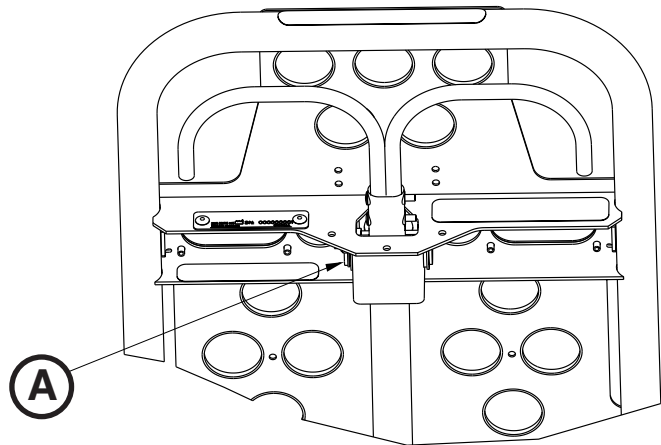

Figure 67
2. Using a 3/32" hex wrench, loosen the set screw (A) that holds the gas shaft to the yoke (Figure 67).